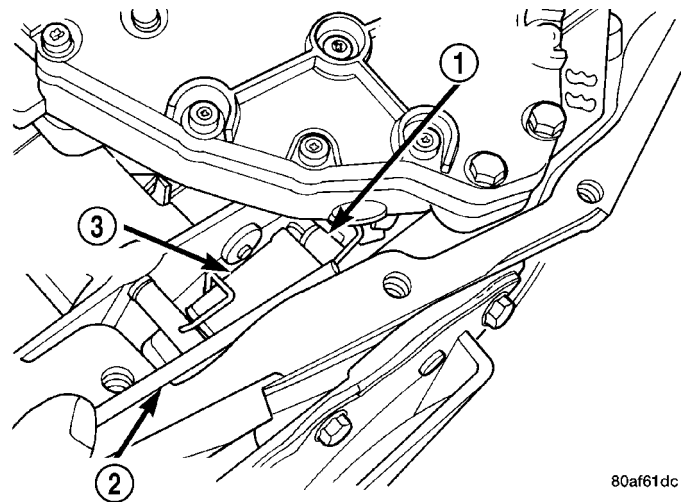

Fig. 20 Push Park Rod Rollers from Guide Bracket
(9) Using a screwdriver, push park rod rollers away from guide bracket (Fig. 20) and remove valve body assembly (Fig. 21).